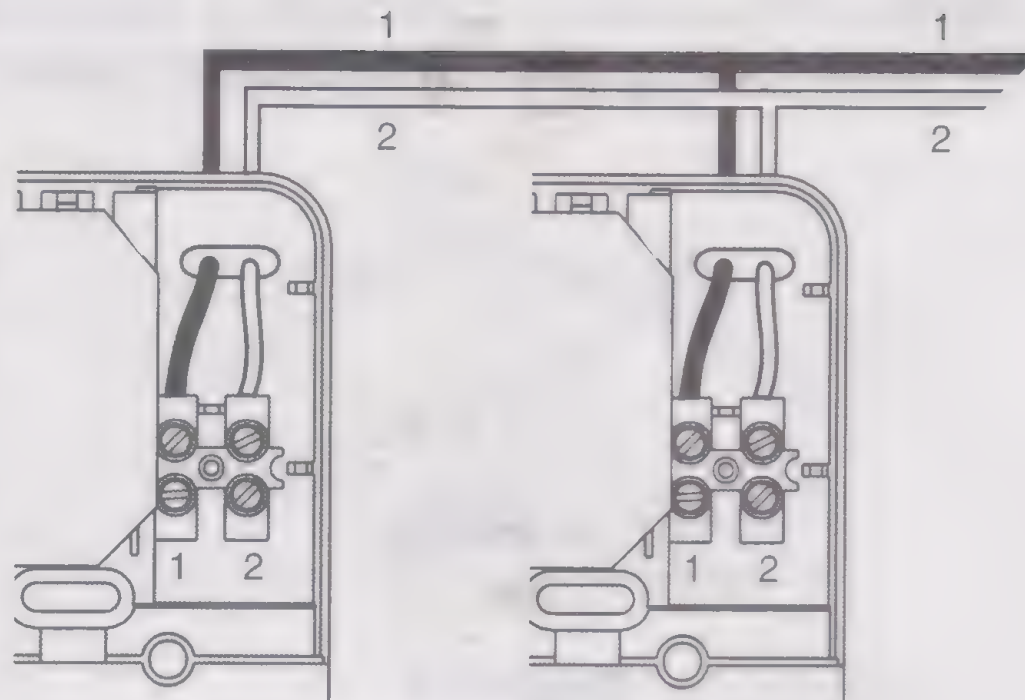

Figure 8
2. On the first unit connect twin core cable to the terminals marked 1 and 2 as shown in Figure 8 and bring the cable out through the hole above the terminal block.